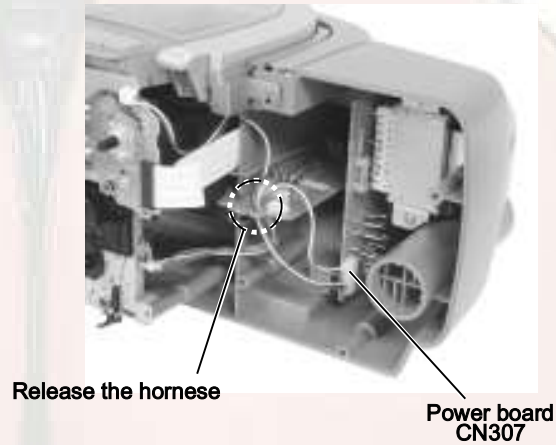

Fig.21
■ **Removing the battery board (See Fig.21 and 22)**